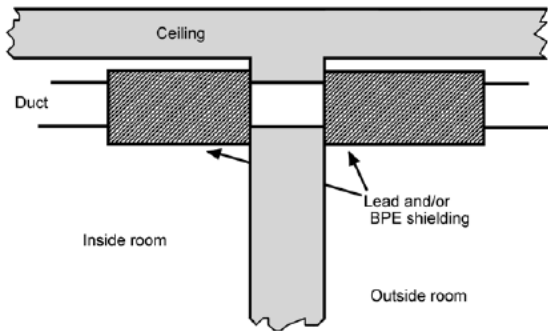

Fig. 4.4. Duct wrapped with shielding material on both sides of barrier.
- (2) or the ducts should be wrapped with lead and BPE, as shown in Figure 4.4.